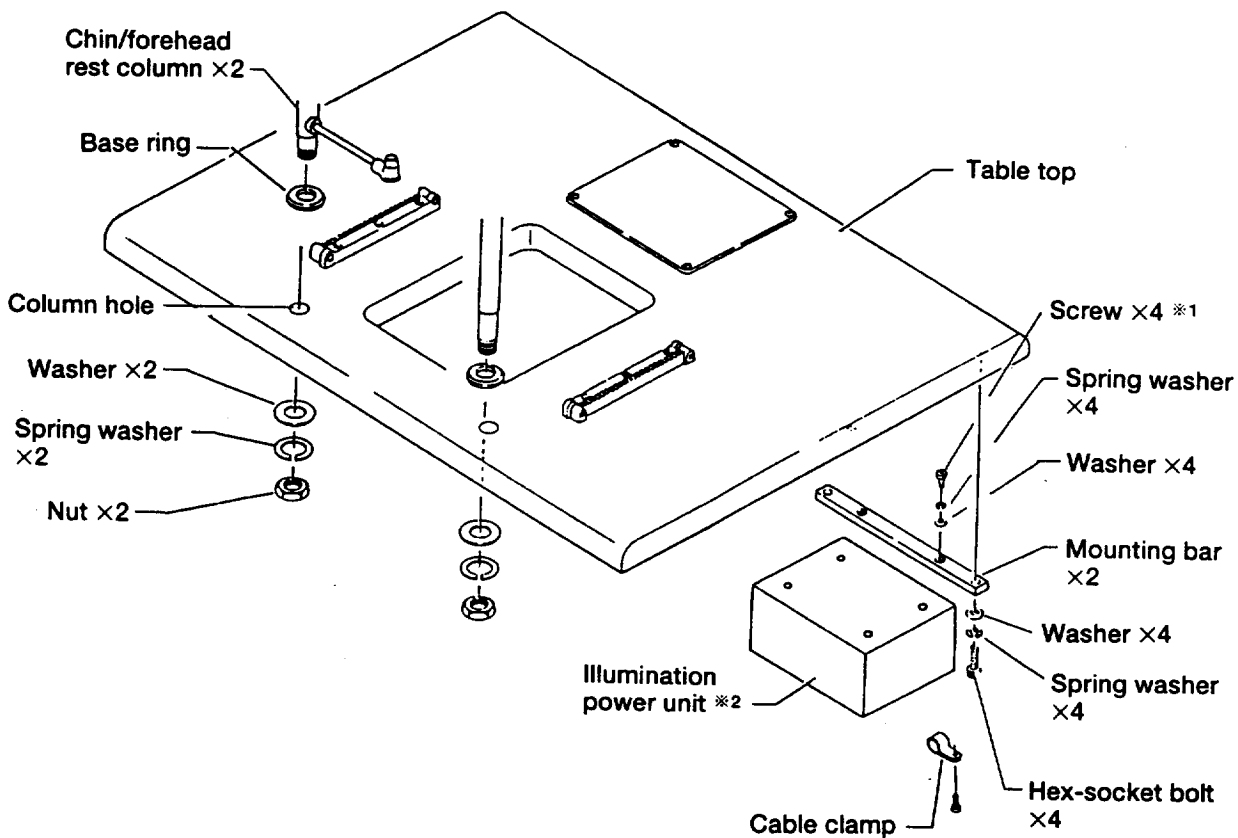

Figure 6
- (1) Install and fix the (two) mounting bars on the illumination power unit as shown in Figure 6 (using a Phillips screwdriver).
- (2) Install and fix the illumination power unit on the back side of the table top as shown in the figure (using hex wrench).
- (3) Install and fix the table top to the Nikon power table (using hex wrench).
- (4) Install and fix the chin/forehead rest columns on the table top as shown in the figure (using a spanner).